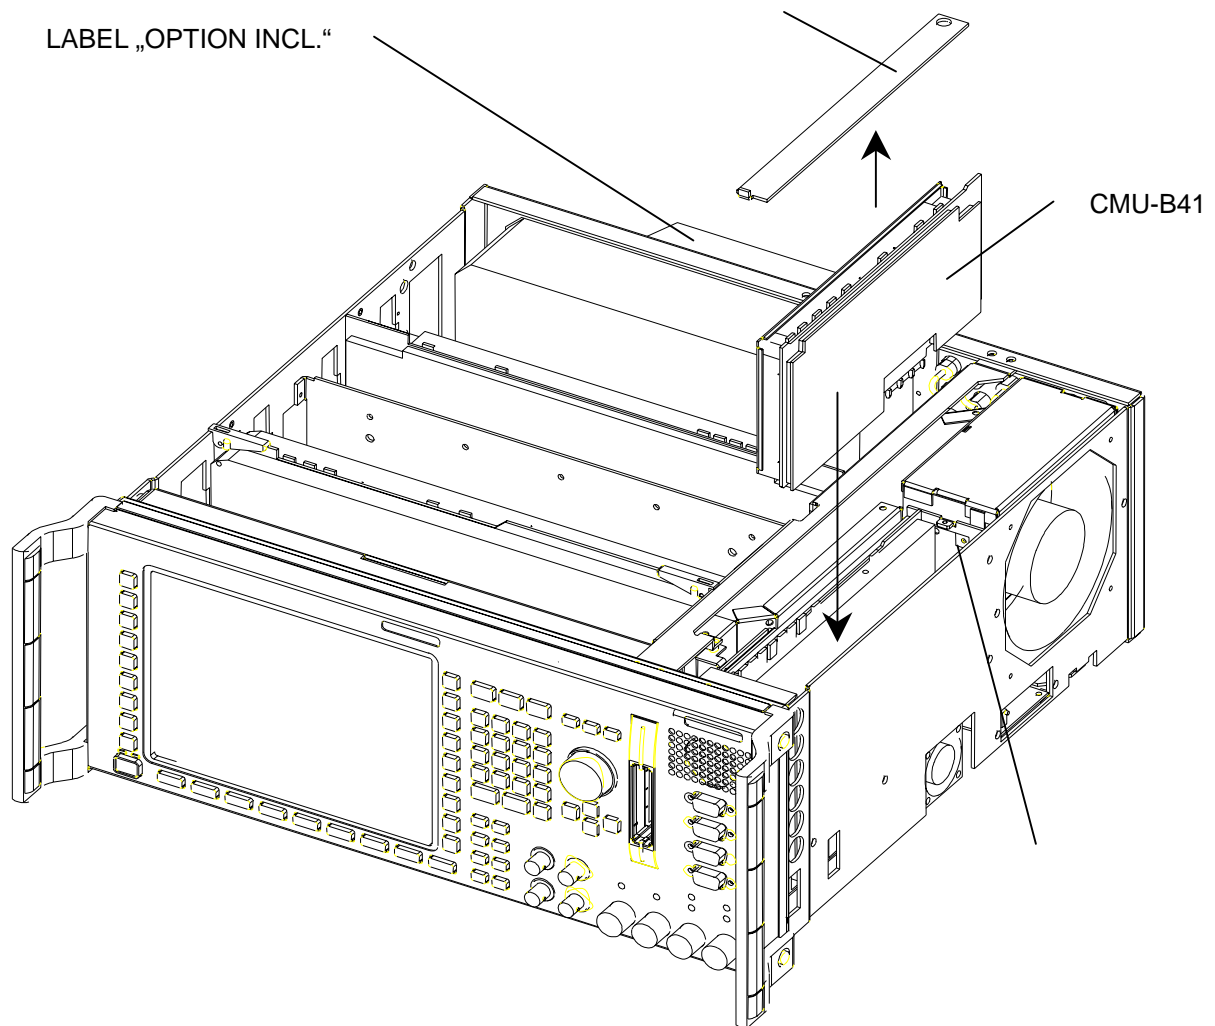

Fig. 3
- Remove clamp. Take off vent cover between air duct and cage since it is no longer needed (Fig. 3).
- Mount clamp again (Fig. 3).